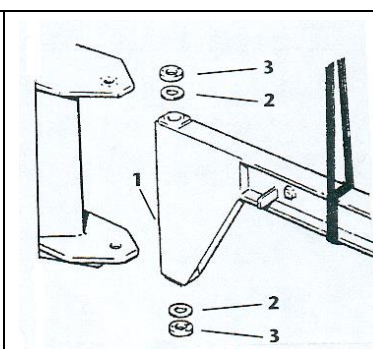

fig. 47
2. Line the arm up with the plates (of the bracket or pillar) and position the clutch plate **2** and the pressure plate **3** in the upper part of the tube, making sure at the same time that the clutch plate **2** and the pressure plate **3** fit into the lower part (fig. 47).